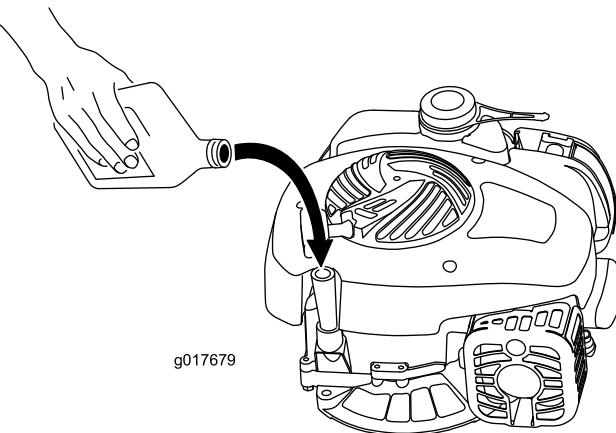

Figure 21
2. Disconnect the spark plug lead (Figure 21).